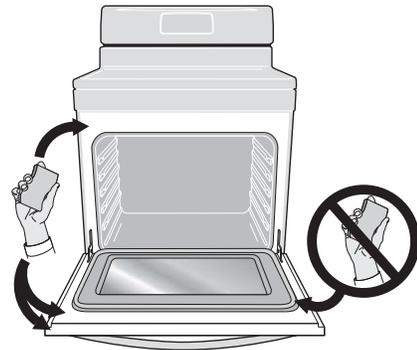

Figure 18: Do not clean the oven door gasket
12. Wipe oven cavity and bottom. Do not clean oven door gasket (See Figure 18).